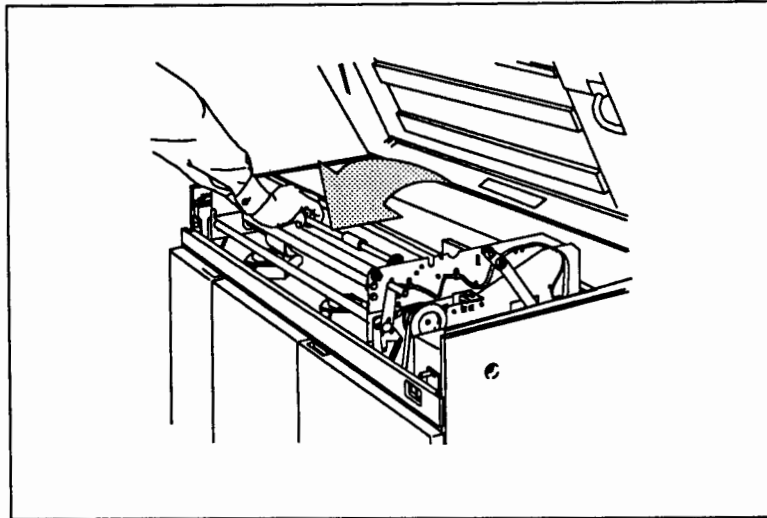

Figure 2-22. Locking the Feed Roller Assembly Forward
- l. Swing the media feed roller assembly (located at the front of the upper frame) up and forward into the locked-open position. See Figure 2-22.